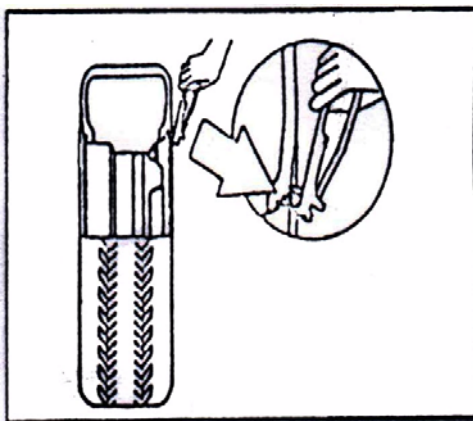

Fig 16
4.1.1 Deflate the air in the tire completely and pull out the core. Use the special tool to detach the weight on the rim. (FIG16).